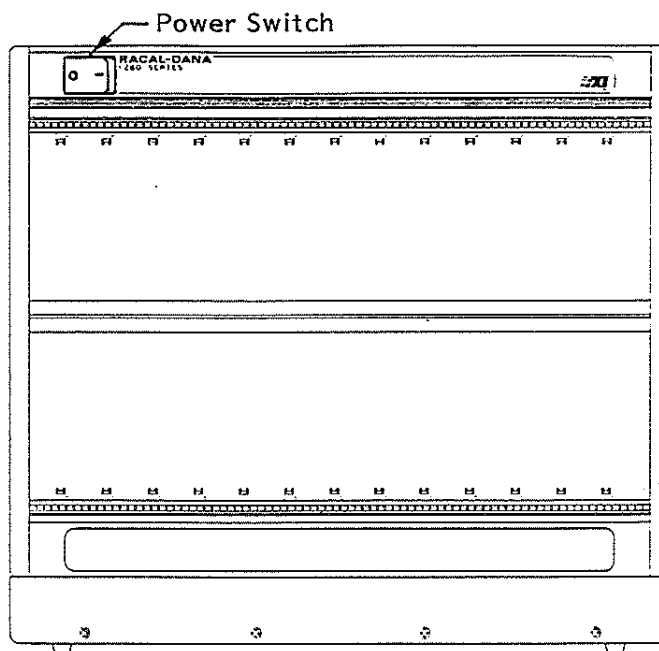

Figure 3-1, 1261A Front View
3.3.1 To apply power to the chassis and VXibus modules installed, depress the side of the AC line switch marked "1". The front panel and line switch are shown in Figure 3-1.